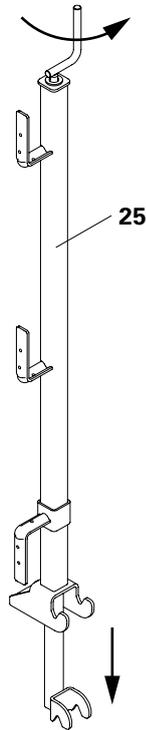

Fig. C4.02
1. Pre-adjust Guardrail Post GKB (25) with the crank.
2. Place the Guradrail Post GKB (25) in the reinforcement stirrup and tension with the crank.
3. Position Guardrail Boards (33) and secure, e.g. by means of wire pins or wood screws. (Fig. C4.02 + C4.03)